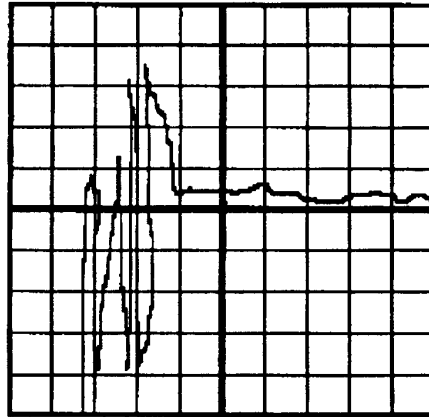

Figure 2. Aberration waveform display.
(1) Acquire signal using digitizing oscilloscope and set sweep speed to 1 ns/D. Adjust delay to center waveform on vertical center graticule.
(2) Set digitizing oscilloscope sensitivity to 10 mV/D and adjust offset to place the top of waveform on center horizontal graticule.
(3) Adjust digitizing oscilloscope offset and delay until waveform is displayed as indicated in figure 2.